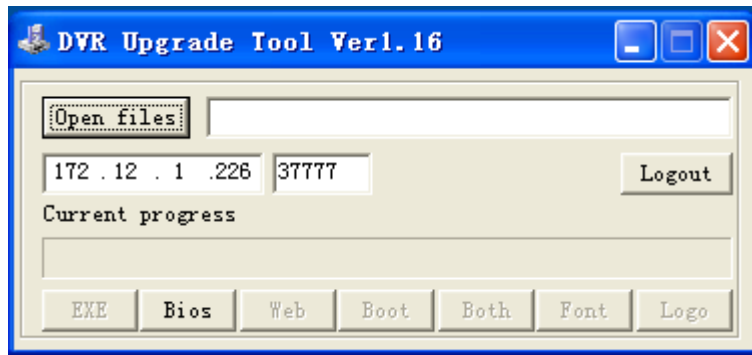

Figure 2-8
- For network keyboard, you can use the Windows upgrade tool. Please contact your local retailer or visit our official website to get the Windows upgrade tool. The REC Upgrade or REC Upgrade are both OK. If the ConfigTool can not search the keyboard, please upgrade manually. Now we use REC Upgrade for an example. The interface is shown as below. See Figure 2-8.